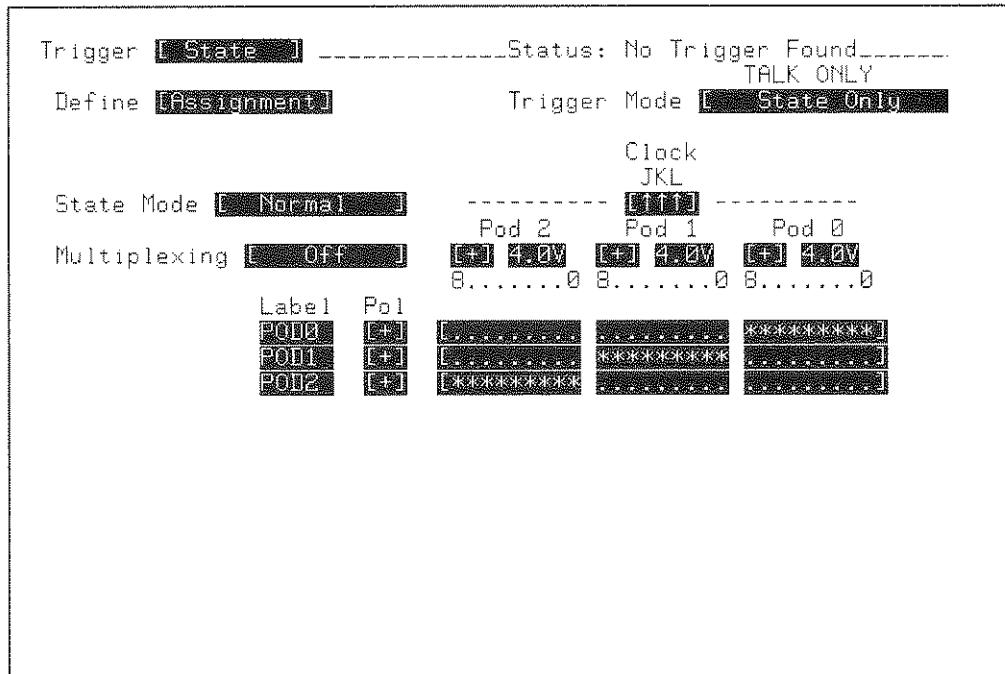

Figure 9-32. TRIGGER State / Define [Assignment] Menu
3. Configure the TRIGGER State / Define [Assignment] menu as shown in figure 9-32.
21. Reconfigure the menu in figure 9-32 with thresholds of -4.0 V.